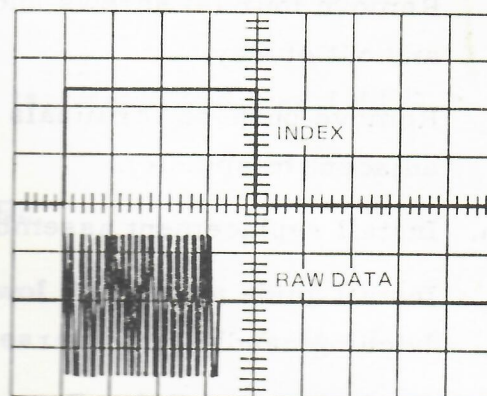

Figure 3-9. Synchronized Data
- f. Set oscilloscope as follows, to monitor leading edge of INDEX pulse and RAW DATA, as shown in Figure 3-9.